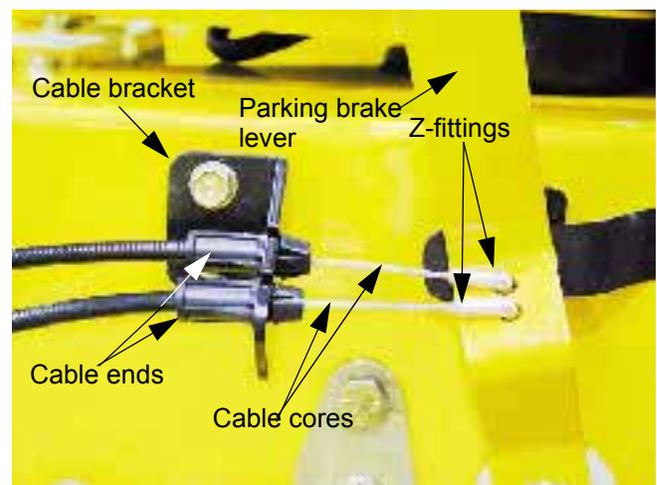

Figure 8.6
- 8.6. Inspect the lever end of the cables. The Z-fitting on the lever end of the cable should not be damaged. The cable housing ends should lock securely into the bracket. See Figure 8.6.